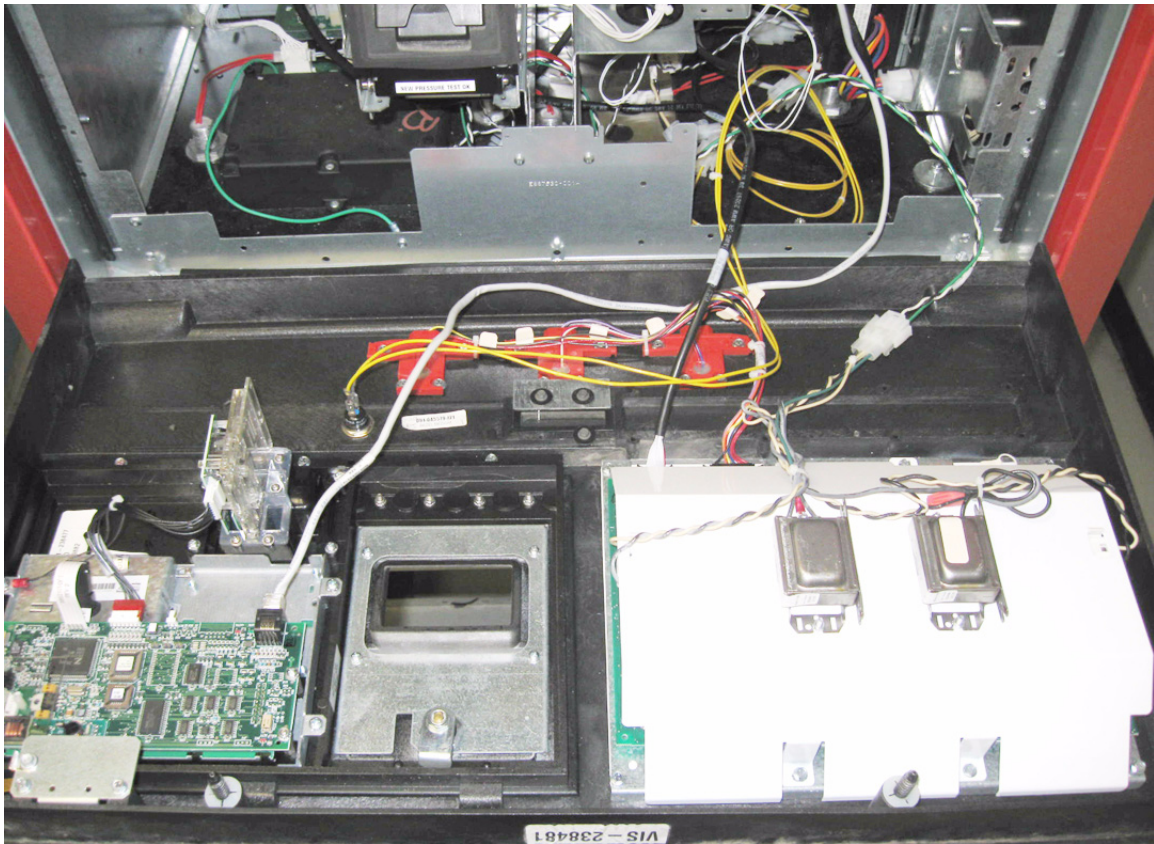

FIGURE 2
1. On both sides of the dispenser, open the bezels, disconnect the power and data cables from the bezels Figure 2, and remove bezels. Set bezels aside for reusing the displays.